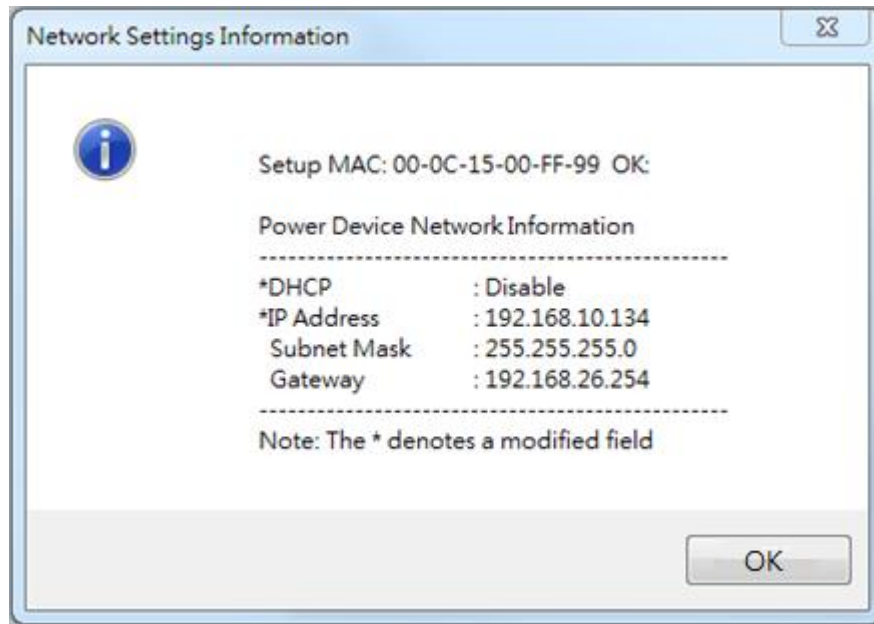

Figure 4. Setup IP Address successfully message.
8. If the IP address change is successful, you will see a message confirming the IP set up is OK, as shown in Figure 4.